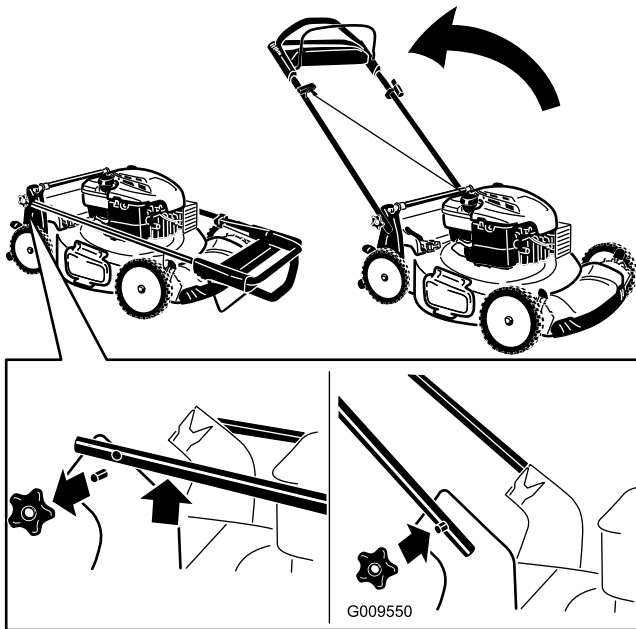

Figure 3
1. Remove the handle knobs from the machine housing (Figure 3).